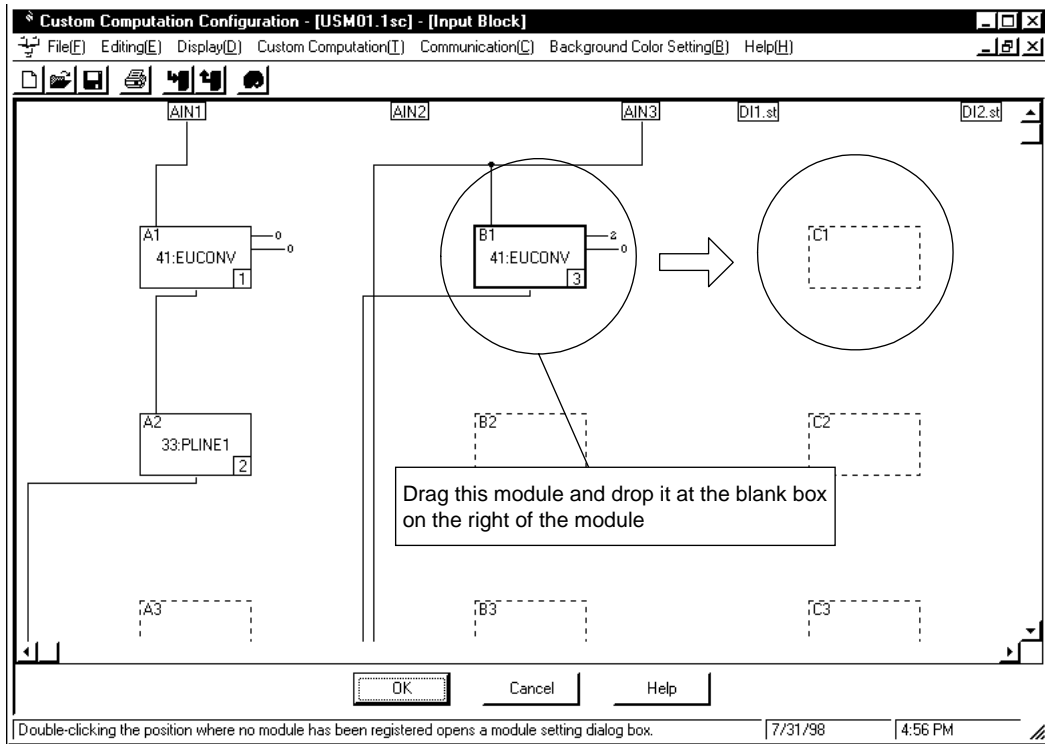

Figure 6.1.1 Computation Module before Move
- ① In the [Input Block] or [Output Block] dialog box, click the computation module you want to move.
- ≠ Use a drag-and-drop operation to move the module to its destination (Figures 6.1.1 and 6.1.2).